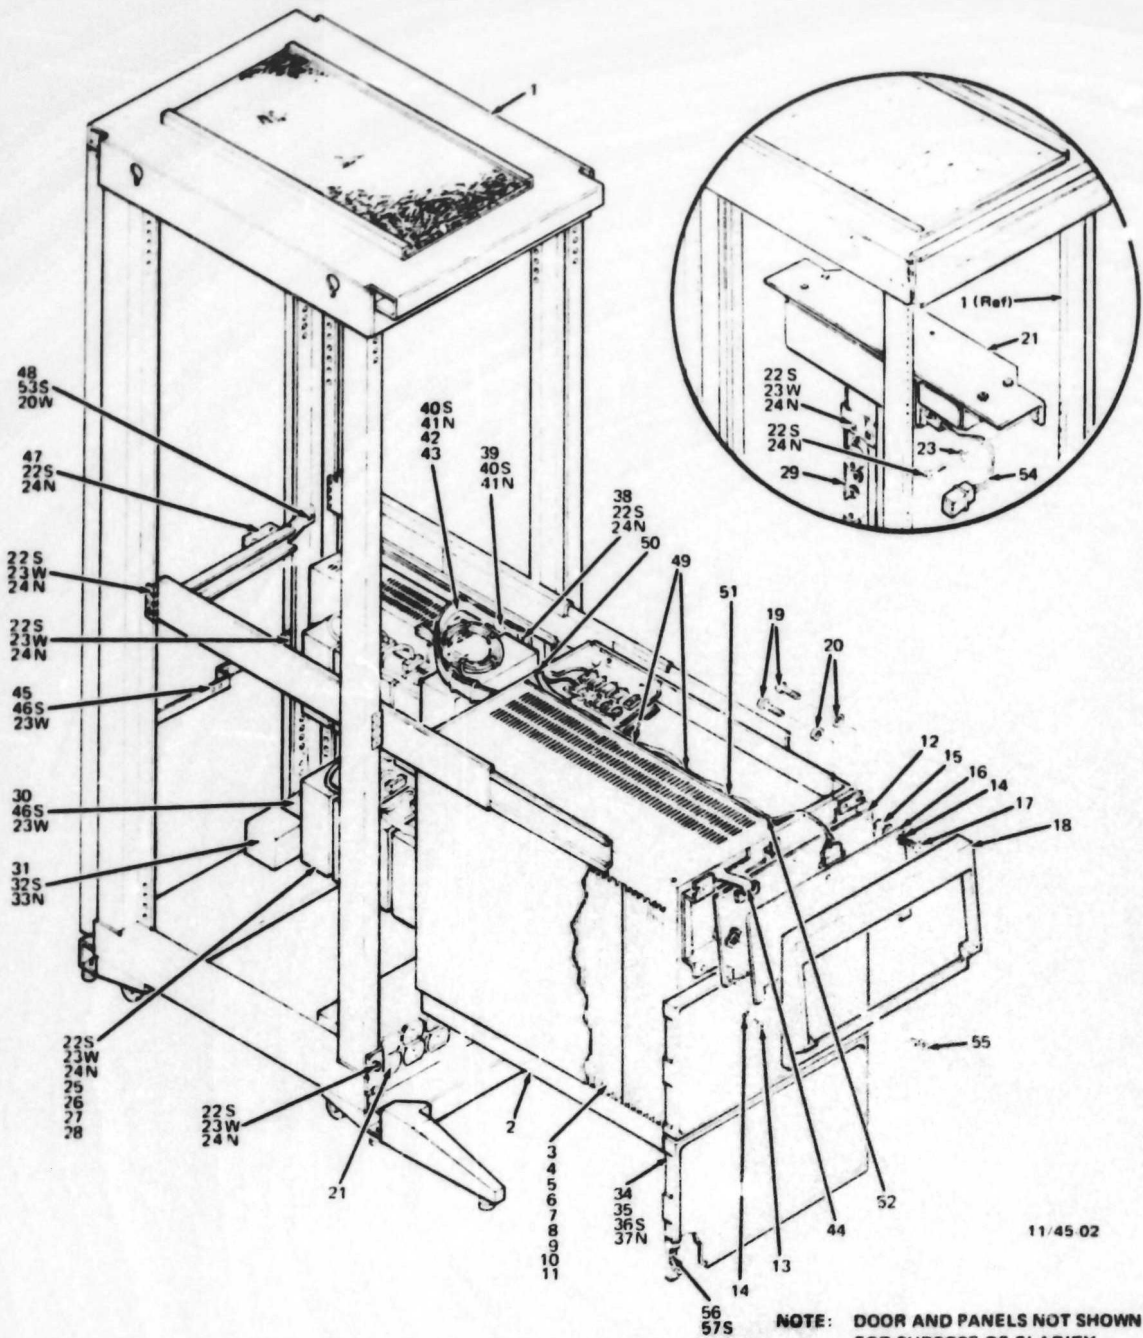

Figure 1. Model PDP-11/45 Computer Assembly (16 Bit)
**Used On Code** - Letters in this column correspond to the variation codes assigned in Figure 1. Parts with an Alpha notation(s) are used only in those option variations. A blank indicates that the part is used on all option variations.